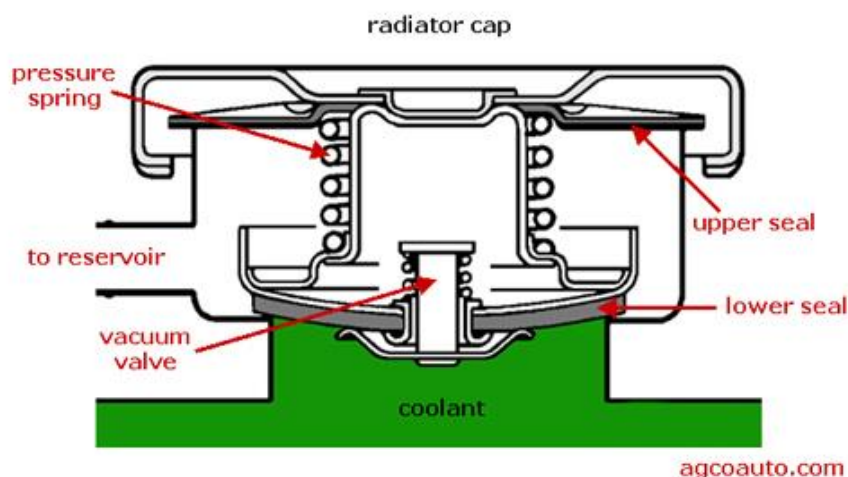

Fig. 6
- The cap acts as a relief valve and so maintains the pressure. As soon as the pressure in the cooling system overcomes the pressure of the spring in the radiator cap, the valve is lifted off its seat and releases the excess pressure through the overflow pipe (Fig. 6).